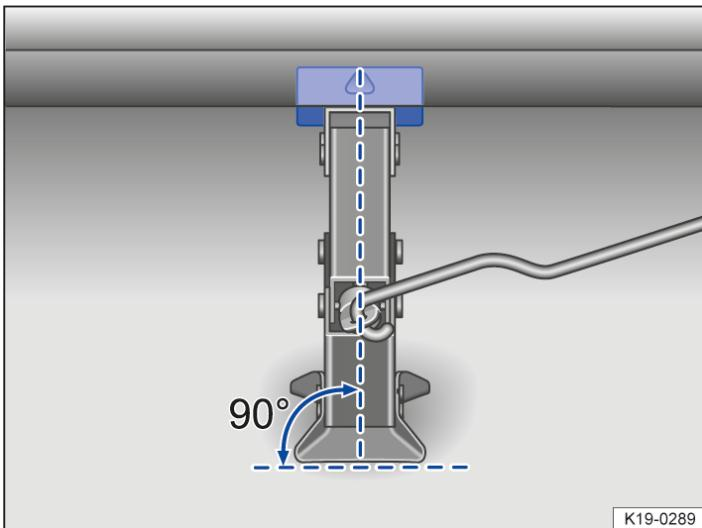
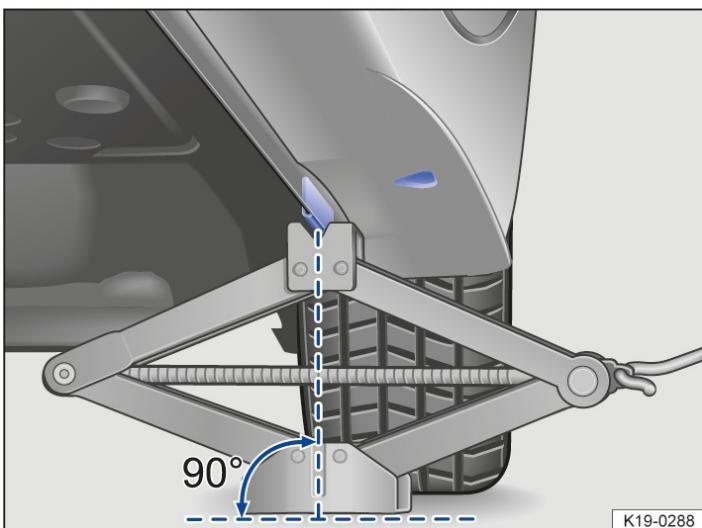

Fig. 2 Correct alignment of the jack.
Fig. 3 Scissors jack applied at the rear on the left-side of the vehicle.
9. Make sure that the entire surface of the foot of the jack is resting securely on the ground and that the foot of the jack is positioned vertically directly beneath the jacking point → Fig. 3 and → Fig. 2.
10. Position the jack and simultaneously continue to crank the claw up until it is in position around the vertical rib underneath the vehicle → Fig. 3.
- Apply the jack only at the points described. The jack claw must grip the jacking point under the side member securely → *Fig. 3*.